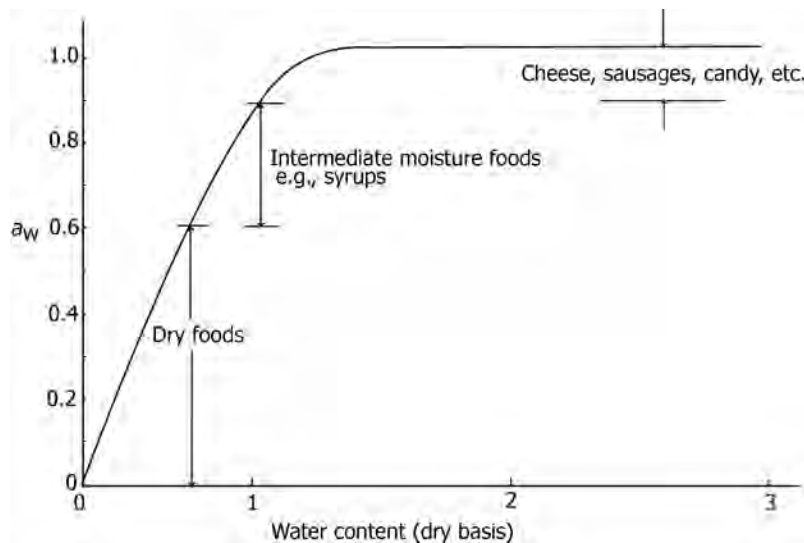

FIGURE 18.23 Water activity versus moisture content for different types of foods.
- Figure 18.23 illustrates water activity for different types of foods as function of moisture content.